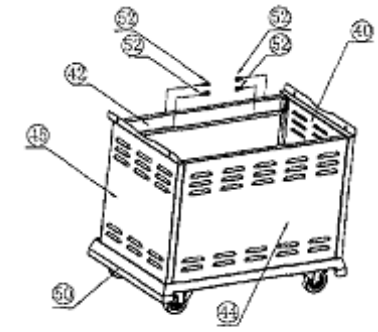

FIG4
4. Locate the Beam (42) between Left Plate (40) and Right Plate (45) with 1/4-20* 1/2Bolt (52). As shown in FIG4